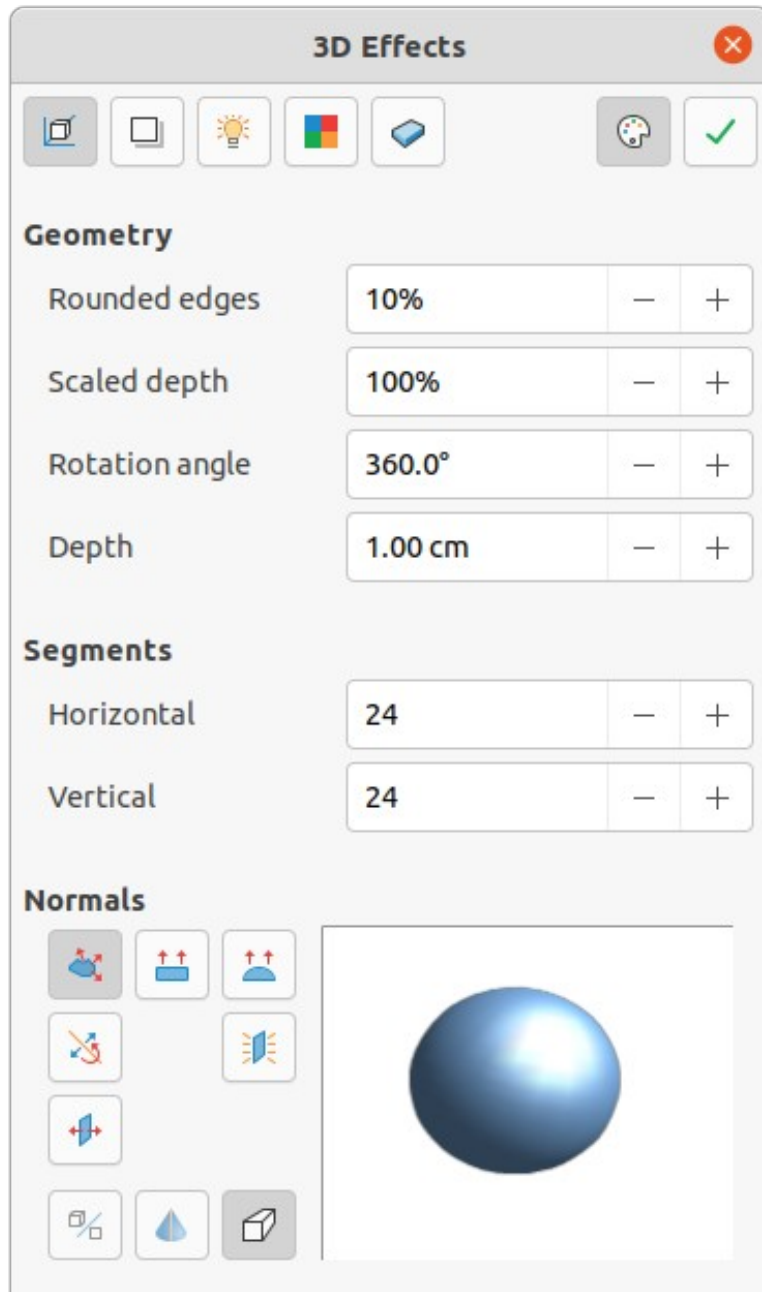

Figure 11: 3D Effects dialog - Geometry page
- Click on **Convert to 3D** in the 3D Effects dialog (Figure 11 on page 10).
The 3D Effects dialog (Figure 11) offers a wide range of possible settings for editing 3D ready made objects or 3D scenes. This dialog can also be used to convert a 2D object to 3D using the tools in the bottom left corner of the dialog. To open the 3D Effects dialog, click on **3D Effects** on the Line and Filling toolbar, or go to **Format > 3D-Effects** on the Menu bar.
Click on **Geometry** in the 3D Effects dialog (Figure 11) to open the Geometry page and use the options available to change the geometry of a 3D object.